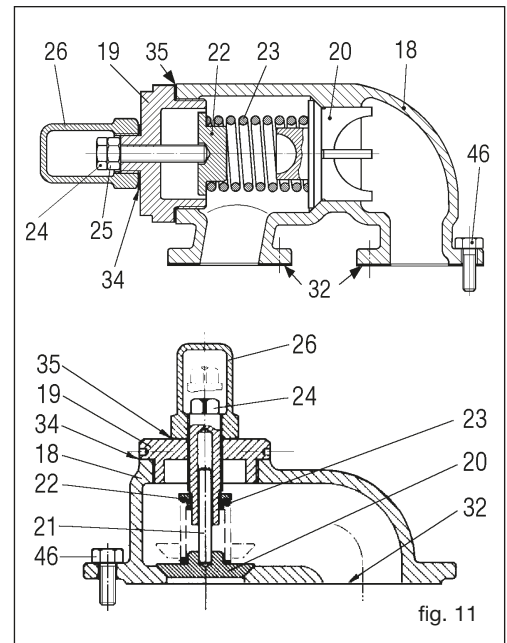

fig. 11
### 10.5 Regulation of the by-pass relief valve (fig. 11) (Example of setting at 8 bar)
- ❑ If the pump mounts a by-pass relief valve (figure 11) on the cover (07) it is not necessary to remove it. If, however, the by-pass also requires maintenance, unscrew the screws (46) and remove it, taking care not to damage the gasket(s) (32). If the gaskets are damaged, replace them.